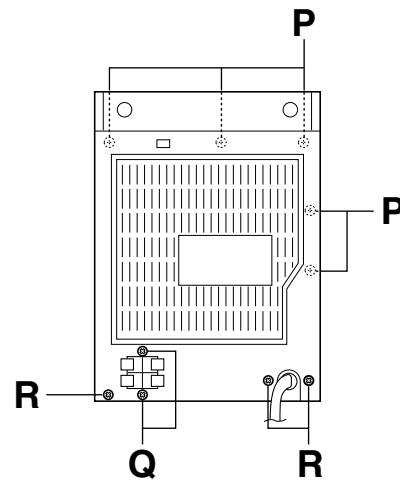

Fig.18
- Remove the main board according to its disassembly method (see **Figs. 18** and **19**).
(See Figs. 18 and 19.)